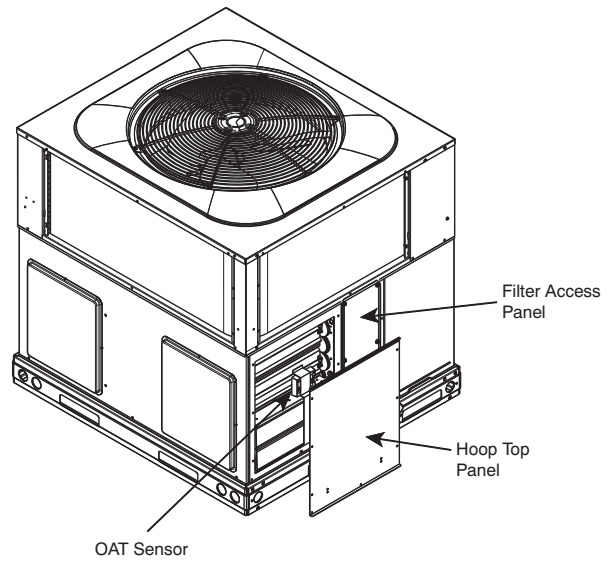

Fig. 8 - Economizer Hood Top Panel Removal
2. Remove economizer hood top panel from the return side of the unit. See Fig. 8. Keep screws and panel next to the unit.